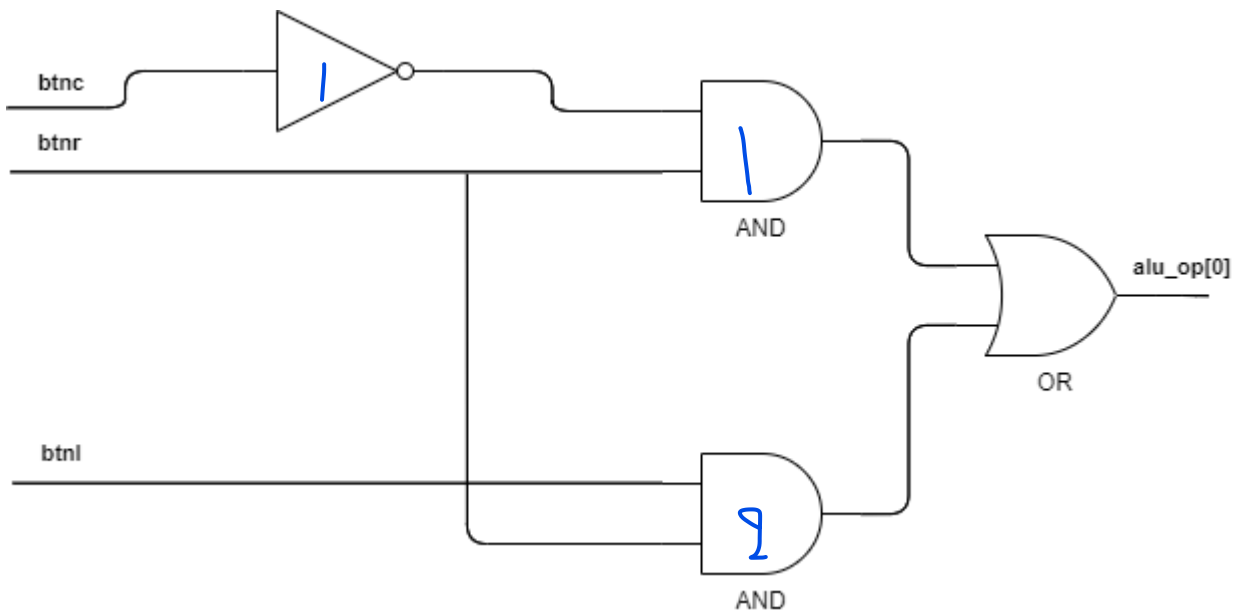

Fig. 2: Production of **alu_op[0]** via **btnc**, **btnc**, **btnc**.
- Create a new signal for '**alu_op**' as well as the logic for this signal as discussed below (Figures 2 – 5).
The signal '**alu_op**' determines which ALU operation will be performed. You will determine which operation to perform based on the value of the three keys: **btnc**, **btnc** and **btnc**. You should create the combinational circuit of Figures 2 – 5 that produces the appropriate signal '**alu_op**' based on the value of these three keys. Implement the circuit **calc_enc.v** in structural verilog and connect it to the calculator circuit **calc.v**.